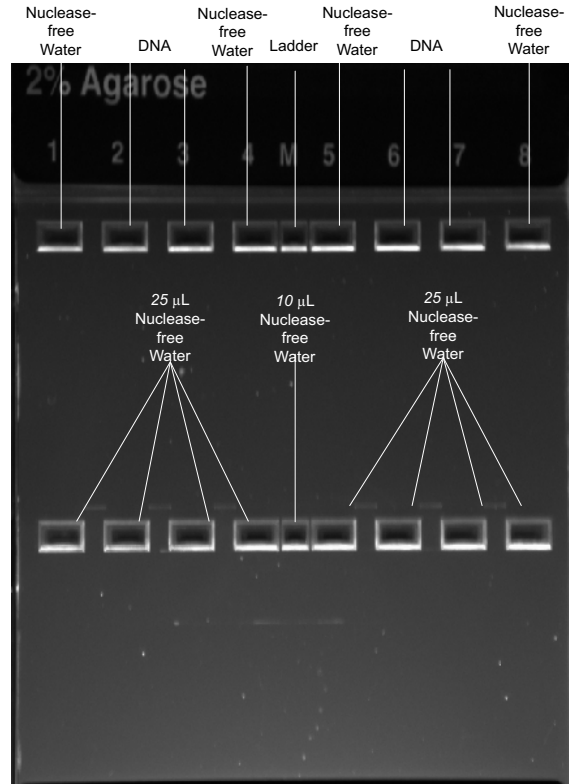

Figure 18 Where to load DNA, ladder, and Nuclease-free Water on a SOLiD™ Library Size Selection gel to size-select the DNA.
4. Load  $\leq 500$  ng of sample in 25  $\mu$ L volume without loading dye into the wells of the *top* row. Use Nuclease-free Water as diluent if necessary. Skip the center well (smaller well in the top center of the gel for the ladder); and skip a single well to the right and left of the center top well. Skip the two outermost wells (to avoid edge effects). Do not load more than 500 ng of DNA per lane (see Figure 18 on page 123).
5. Mix 0.5  $\mu$ L of 1  $\mu$ g/ $\mu$ L of 25-bp DNA Ladder (Invitrogen, 10597-011) with 20  $\mu$ L of Nuclease-free Water. Load 10  $\mu$ L of the diluted DNA ladder into the small middle well of the top row (marked “M”; see Figure 18 on page 123).
7. Load 25  $\mu$ L of Nuclease-free Water into wells 1 to 8 in the *middle* of the gel and 10  $\mu$ L of Nuclease-free Water in the middle marker well of the bottom row (see Figure 18 on page 123).